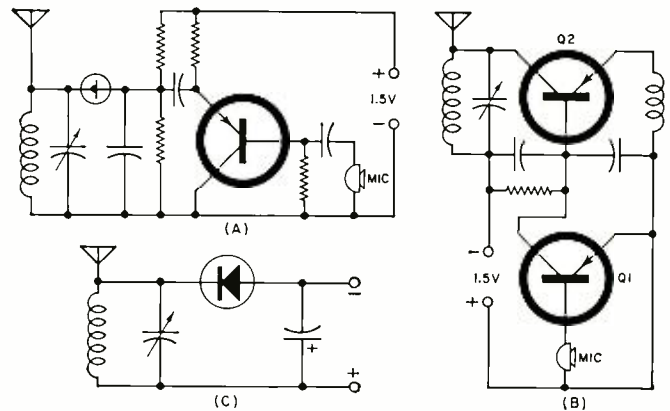

Fig. 6. (A) FM bug using a tunnel diode. (B) Another bug using two transistors. (C) The basic idea of "free power."
Fig. 6 shows an example of two typical designs. In the first (A), FM modulation is produced by the varying audio signal changing the anode bias of the tunnel diode. With tunnel diodes, the characteristic curve is never perfectly linear in the negative resistance region, so the resonant frequency of the diode is affected enough to create an FM signal in step with voice frequencies. In Fig. 6B, the microphone output causes sufficient changes in the resistance of Q1 to vary the bias of Q2. With Q2's base-to-collector